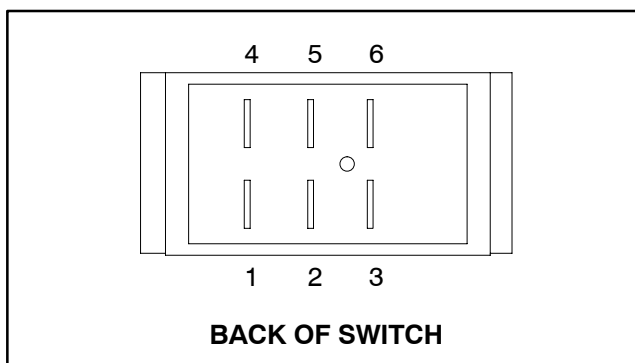

Figure 29
2. The switch terminals are marked as shown in Figure 29. In the INCREASE or boom raise position, continuity should exist between terminals 2 and 3 and also between terminals 5 and 6. In the neutral, center position, there should be no continuity between any switch terminals. In the DECREASE or boom lower position, continuity should exist between terminals 2 and 1 and also between terminals 5 and 4.